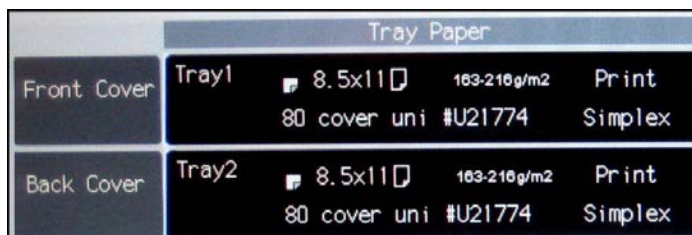

Fig. 4
4. Select an approved cover type for both the front and back cover. See Fig. 4